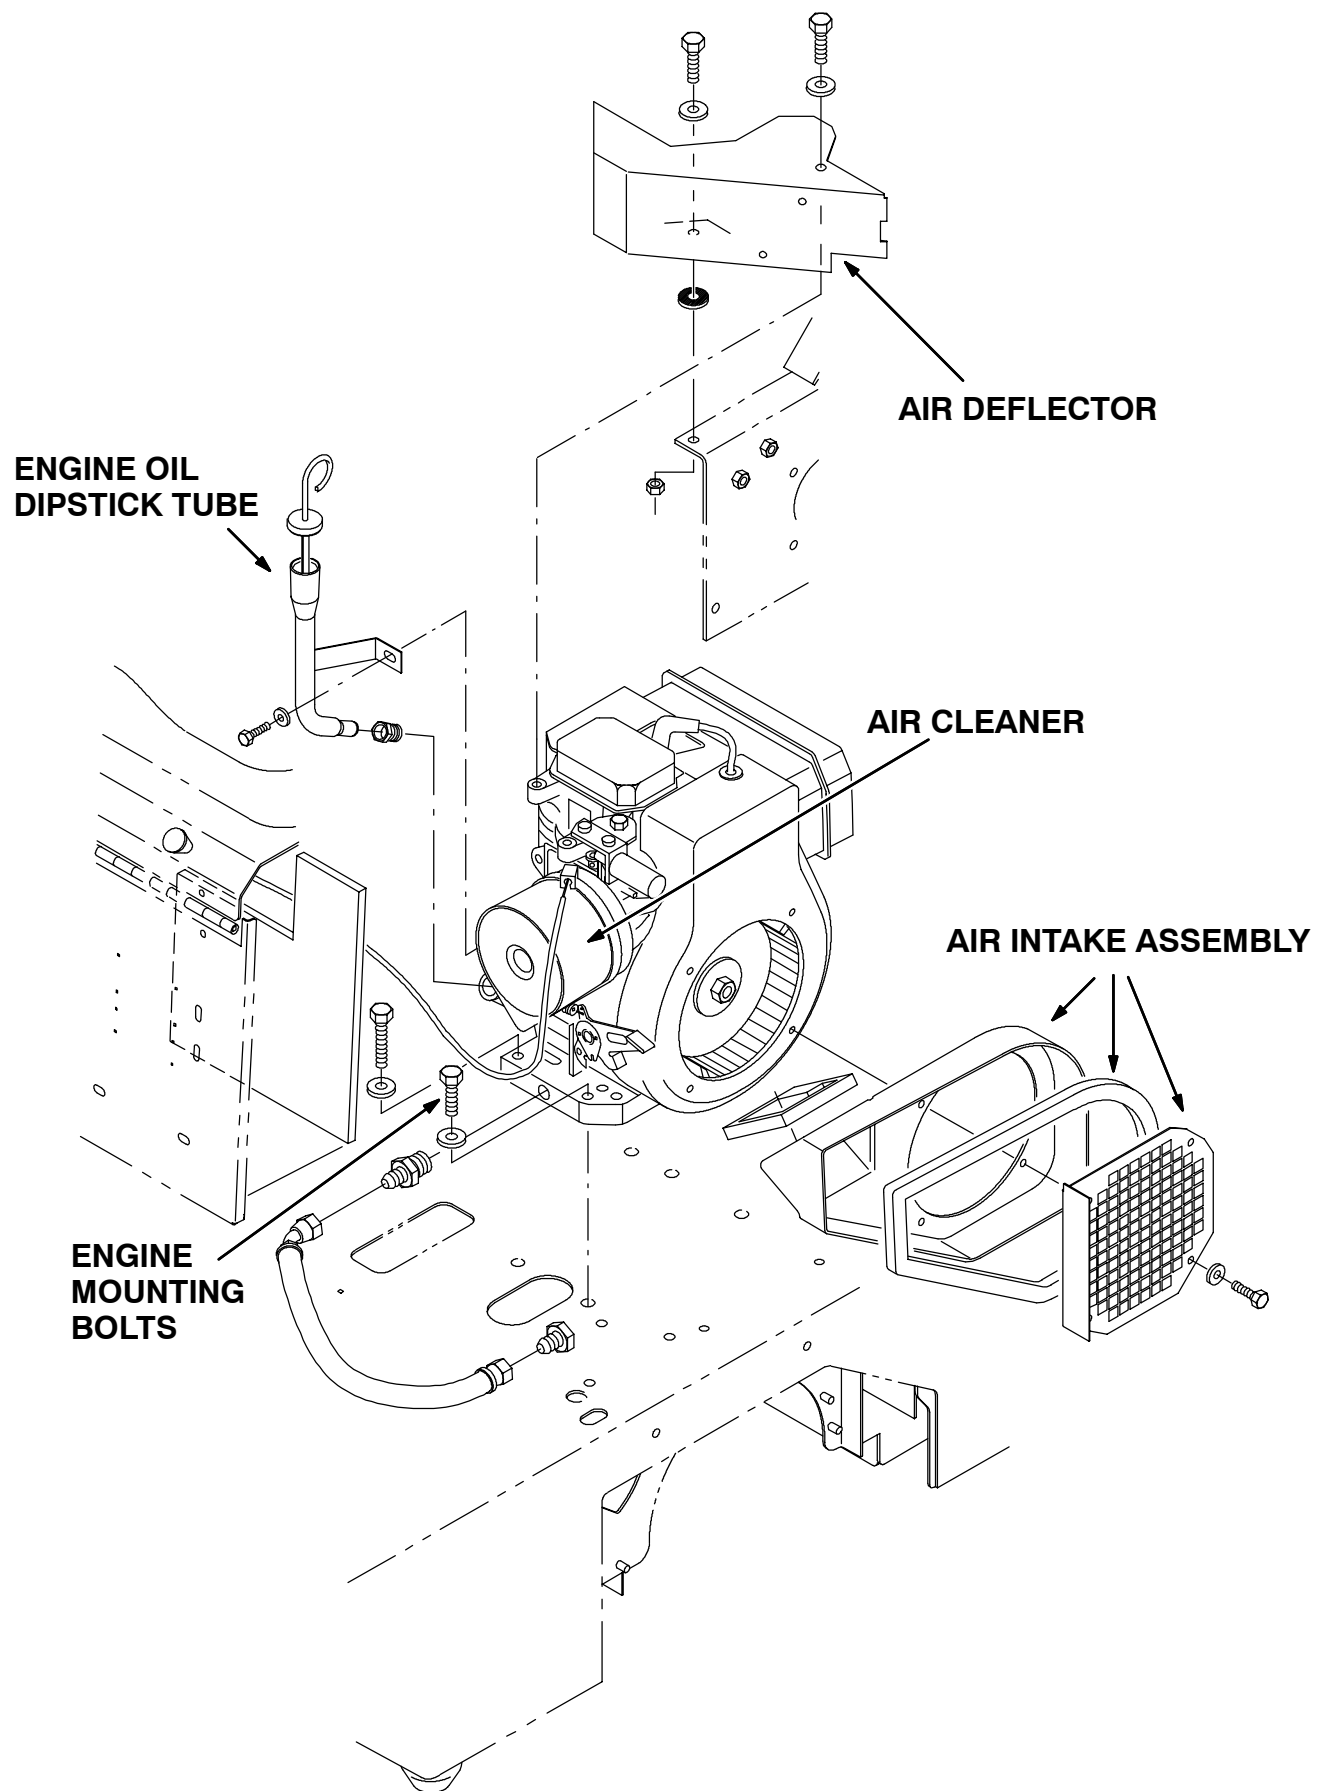

FIG. 3 - ENGINE GROUP
4. Remove the air intake assembly from the engine. (Refer to FIG. 3)
6. Remove the air deflector from the machine. (Refer to FIG. 3)
10. Remove the air cleaner from the engine. (Refer to FIG. 3)
14. Remove the engine oil dipstick tube with a 1 1/16 wrench. (Refer to FIG. 3)
15. Remove the four engine mounting bolts. (Refer to FIG. 3)
29. Install the three remaining engine mounting bolts. Check the clearance with the hydraulic hose filter to the tank with 1 1/4 and 7/8. (Refer to FIG. 3)
31. Install the dipstick tube and air cleaner. (Refer to FIG. 3)
33. Install the air deflector bracket. Remember the interior/exterior shake on the screw going into the head. (Refer to FIG. 3)